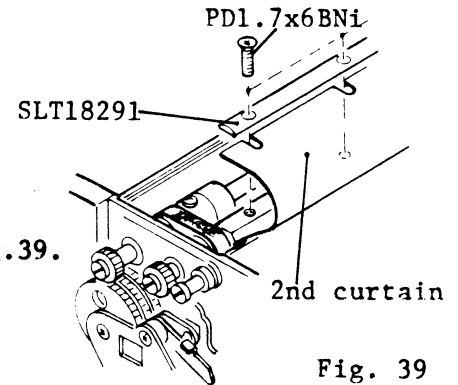

Fig. 39
- c. Loosen three PD1.7x6BNi screws for SLT18291 Curtain fastener as shown in Fig.39.